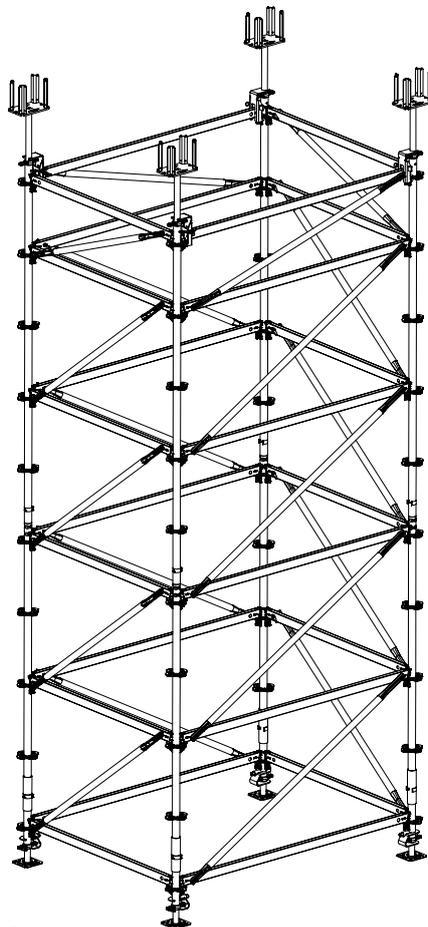

Fig. A1.41
5. 6. Re-install Ledger Brace (8b). → Scaffolding unit is now ready. (Fig. A1.41)